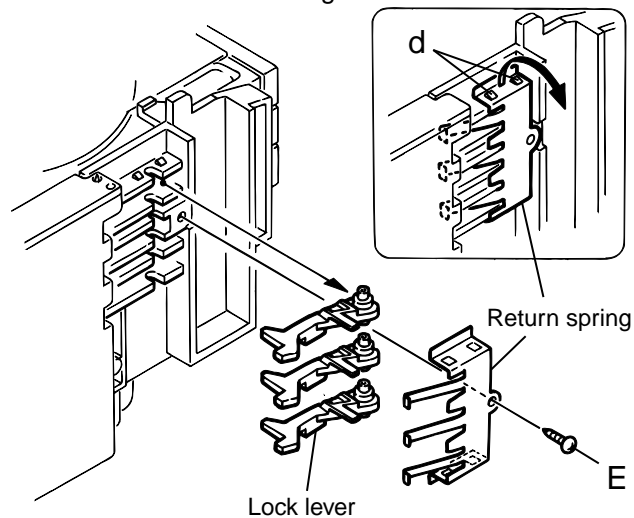

Fig.4
8. From the left side face of the chassis assembly, remove the one screw E retaining both of the return spring and lock lever(See Fig. 4).
9. By removing the pawl at the section "d" fixing the return spring, dismount the return spring(See Fig.4).
10. Remove the three lock levers(See Fig.4).